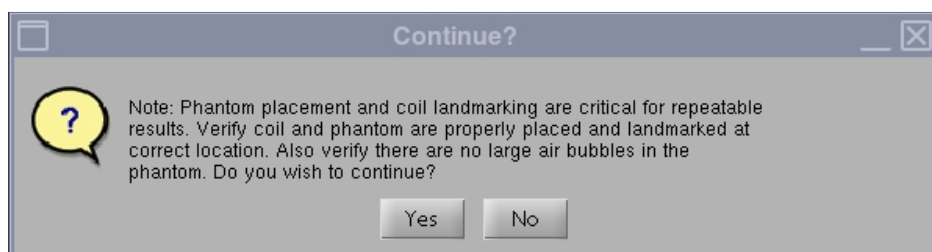

Figure 4
3. Upon start-up, a Note stating, "Phantom placement and coil landmarking are critical for repeatable results" will appear. If the landmark has been set correctly and there are no air bubbles in the phantom, click **[Yes]** to continue. (Figure 4).